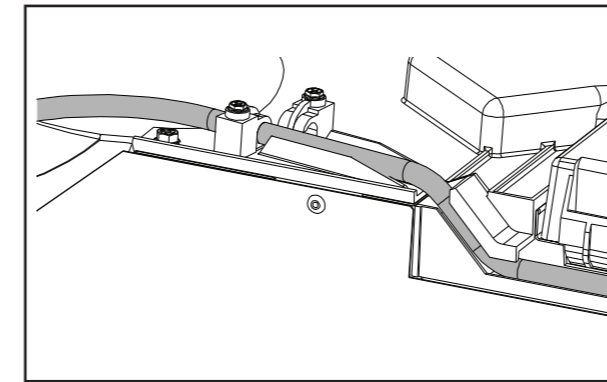

Fig 10.
- Route the wiring from the terminal block along the guides and clamp under the plastic nipper to aid installation (Fig. 10).